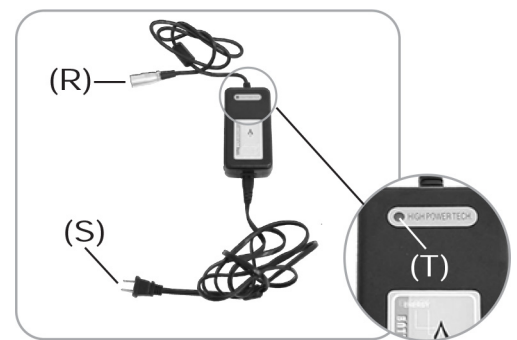

Figure 29
- Output Voltage: 100V~240V (Figure 29)
1. Charger output cable, 4pins Ⓡ connector (R)
2. AC power cord (S)
3. LED Indicator (T)